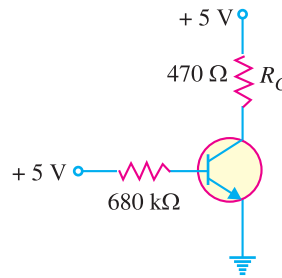

Fig. 8.71
10. Draw the d.c. load line for Fig. 8.71. [The end points of d.c. load line are 10.6 mA and 5V]
11. If the collector resistance R_C in Fig. 8.71 is increased to $1\ \text{k}\Omega$, what happens to the d.c. load line? [The end points of d.c. load line are now 5 mA and 5 V]